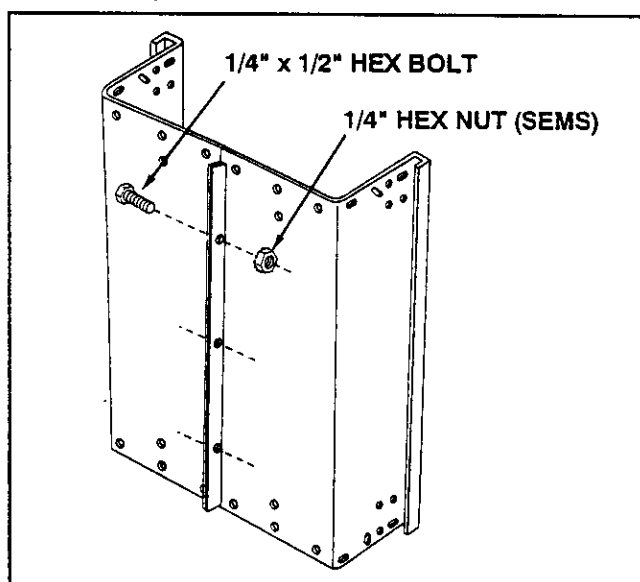
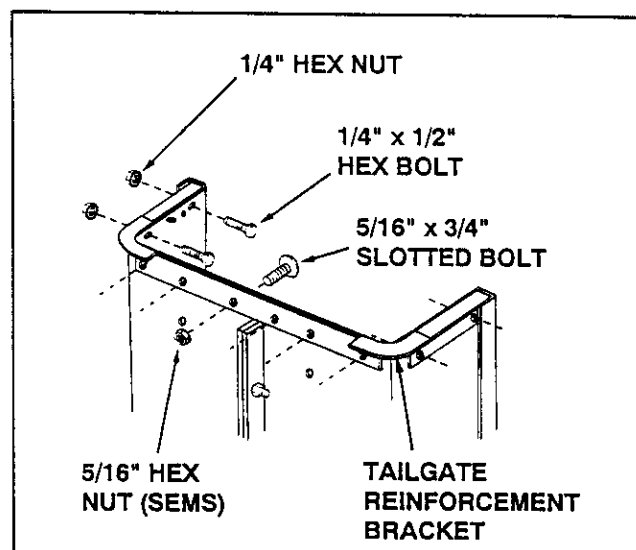

FIGURE 1
FIGURE 2
- Position cart body halves upright on a smooth level surface such as a garage floor or a paved driveway. See figure 1.
- Assemble halves together using three 1/4" x 1/2" hex bolts and 1/4" hex nuts (SEMS) as shown in figure 1. **Do not tighten.**
- Position the tailgate reinforcement bracket on outside of cart as shown in figure 2. Fasten to the bottom of the cart body using six 5/16" x 3/4" slotted head screws and 5/16" hex nuts (SEMS). **Do not tighten.** See figure 2.
- Fasten the tailgate reinforcement bracket to the sides of the cart body using four 1/4" x 1/2" hex bolts and 1/4" hex nuts (SEMS) as shown in figure 2. **Do not tighten.**
- At this time, with the cart body halves pulled together, **tighten** the six slotted head screws assembled in figure 2 and then **tighten** the four hex bolts assembled in figure 2. **Do not tighten** the three hex bolts that were assembled in figure 1.
At this time **tighten** the three bolts on the bottom of the cart which were assembled in figure 1.